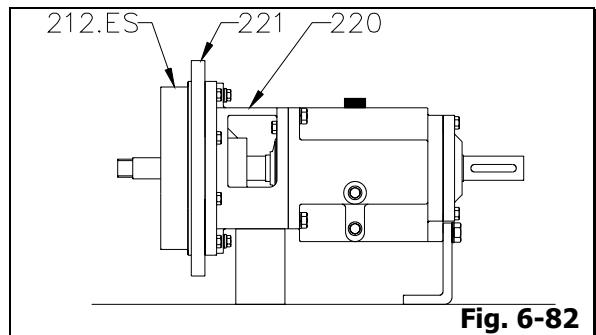

Fig. 6-82
2. Coat stuffing box cover "O" ring (420) seat surface in frame adaptor (220) with oil. Install stuffing box cover (212.ES) assembly onto frame adaptor (220) or adaptor extension ring (221). Align bolt holes and install stuffing box cover bolts (where applicable). Tighten bolts evenly (Fig. 6-82).